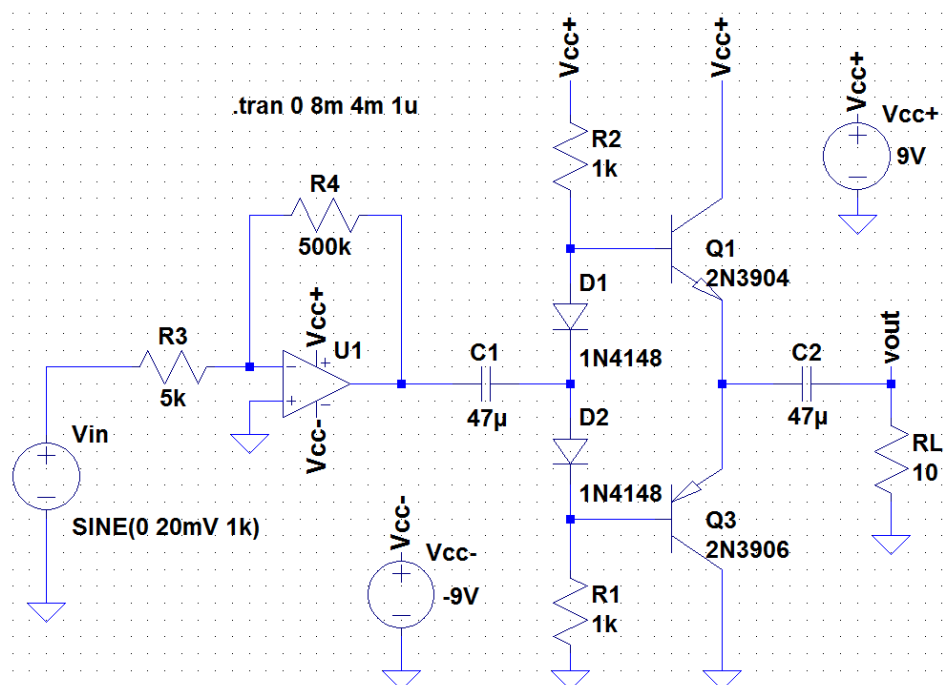

Figure 3.26: op-amp audio amplifier with a class AB second stage
9. Add the class AB push-pull circuit to your op-amp circuit as shown in Figure 3.26. Run the transient analysis.
2. Now add the class AB stage to your op-amp circuit as shown in Figure 3.26. Test it with a 1 kHz amplitude input signal of amplitude 20 mV. Determine the gain of this two-stage amplifier: